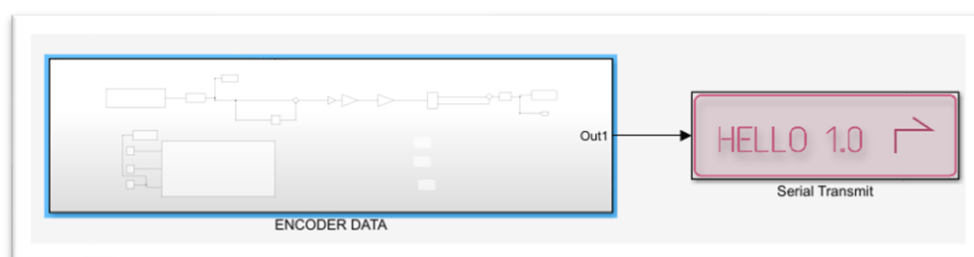
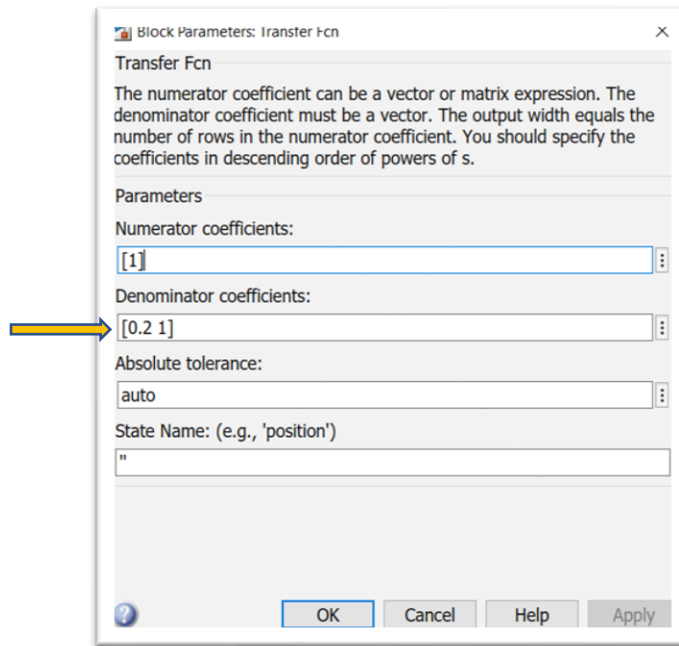

Figure 16: Encoder Block
Figure 17: Parameter Settings
- First, place the Hello 1.0 block at the output of the encoder data block as seen in **Figure 16**. Run the simulation for 10 seconds by entering 50 for motor speed input, 1 for left input and 0 for right input. Come to Settings A, click on the transfer function twice and change the τ value with 0.2 as shown in **Figure 17** and run the simulation again. Repeat the same process by setting the value of τ to 1. Collect the three graphs you have obtained in a single graph and compare and interpret them.